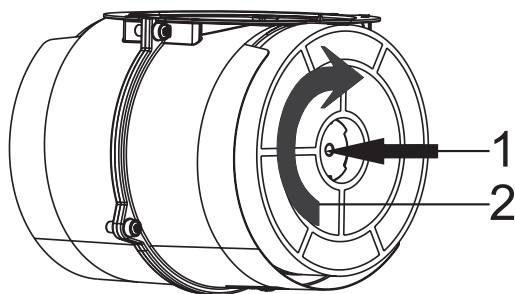

Fig. 4: CARBON FILTER
- 1 - Place the carbon filter in its housing. Fig. 4
- 2- Rotating the carbon filter clockwise, ensure that it is completely fit. Fig .4